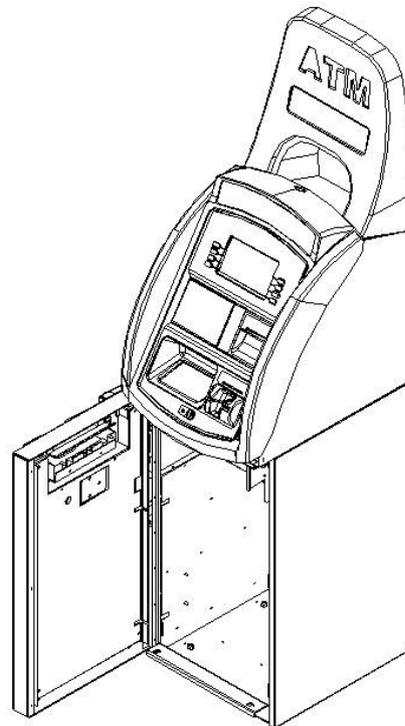

Fig. 4.7
- 7) After the anchor nuts are in place according to the anchor holes on the bottom of the NH-1800, tighten the anchor bolts tightly. (refer to Fig. 4.7)